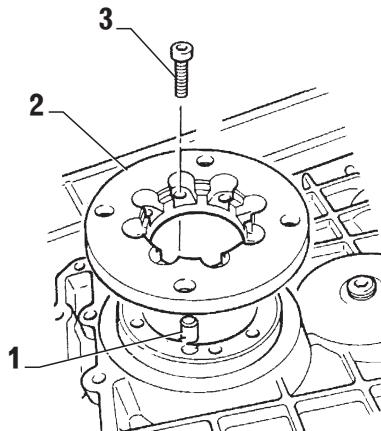

FIG. 5-6a
Drive parallel pins (item 1, Fig. 5-6a) into output flange (item 2, Fig. 5-6a)
Screw output flange with socket head bolts (item 3, Fig. 5-6a) on output shaft
a) Unscrew output flange (see Fig. 5.6a)